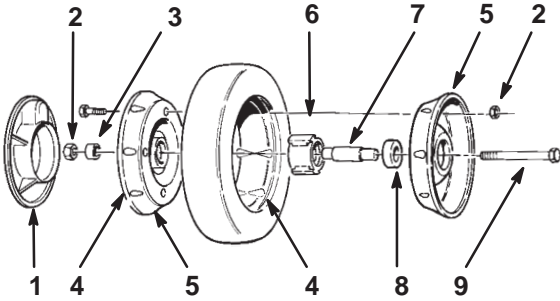

Figure 37
3. Remove the cap screw, the wheel spacer, and the locknut mounting the wheel to the pivot arm (Fig. 37).
4. Separate the wheel halves from the tire by removing four cap screws and four locknuts (Fig. 37).
Note: If you remove the bearings from the bearing/hub assembly, remove them by pressing on the bearing spacer (Fig. 37).
1. Position the tire onto one wheel half, aligning the lugs on each (Fig. 37).
2. Place the bearing/hub assembly into the center hole of the wheel half. Ensure that the legs of the hub are positioned over the flange of the hole (Fig. 37).
3. Place the other wheel half onto the bearing/hub assembly, aligning the wheel and the tire lugs and the mounting holes (Fig. 37).
4. Using two 1/4-20 x 1.50 in. (6 x 38 mm) fully threaded screws or bolts and non-locking nuts, loosely secure the wheel halves together. Mount the screws or bolts in the opposing holes (Fig. 37).
5. Check the alignment of all parts and tighten the screws, alternating from side to side for a uniform fit, until the wheel halves are drawn together (Fig. 37).
6. Install the two cap screws and the two locknuts previously removed in the remaining holes in the wheel halves and tighten. Remove the two long screws or bolts and replace them with two cap screws and two locknuts (Fig. 37).
7. Install the wheel to the pivot arm with the cap screws, a spacer, and a locknut. Ensure that the spacer is positioned between the wheel hub and the pivot arm (Fig. 37).